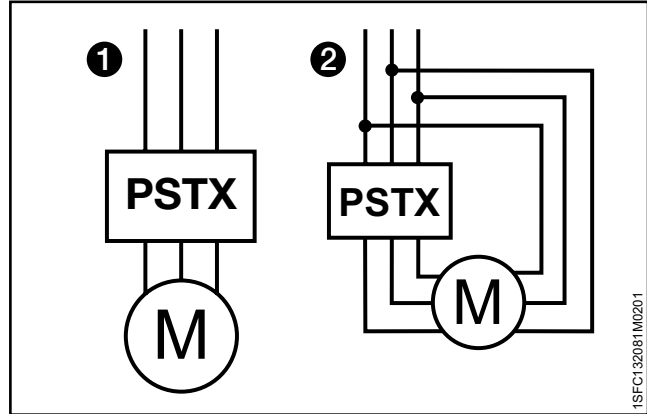

Figure 2.1
You can connect PSTX softstarters In Line **①** and Inside Delta **②**, see **Figure 2.1**.